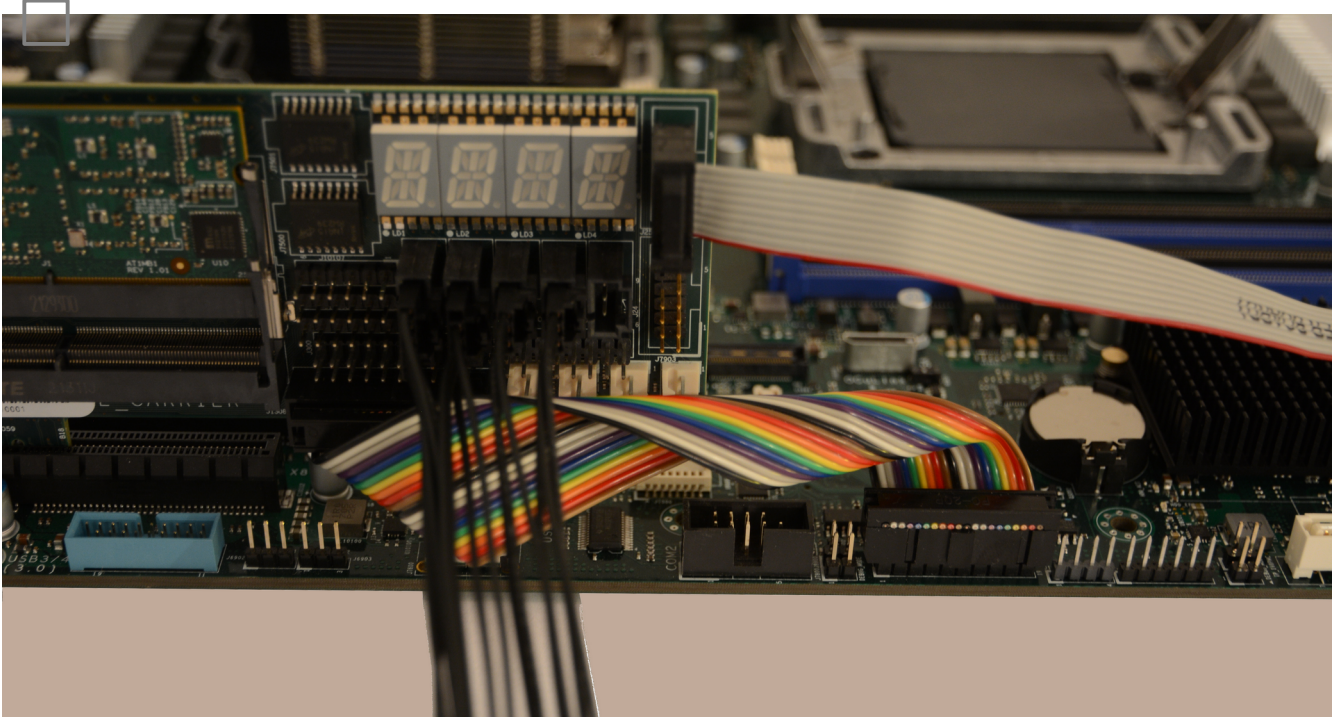

Figure 7: LPC Cable Installation
- ☐ Attach the LPC cable to the host system TPM header as shown in Figure 7. Note the short length and curl introduced into the cable; this is to maintain signal integrity as much as possible over the length of the cable run.